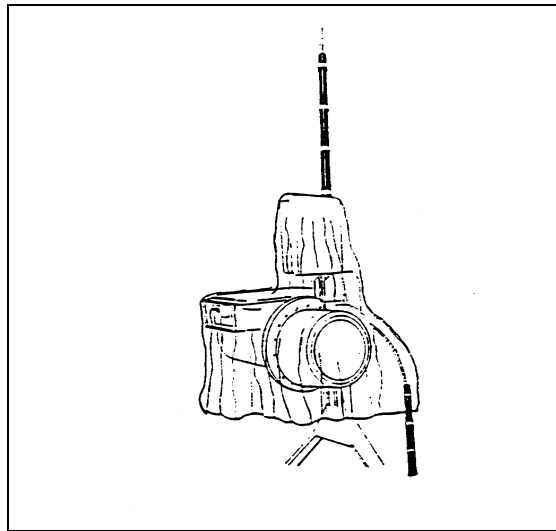

Figure 1.1
- 1.10.2 Cover the steel wire rope support cable with insulating material above and below the hoist. (See Fig. 1.1) This can be done by using a length of rubber-hose, taped in position around the cable. Proceed as follows :